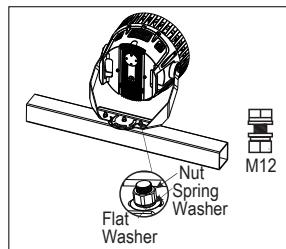

Figure 5
- Install the luminaire on the crossbar and secure it using nuts, spring washers, and flat washers (Figure 5).